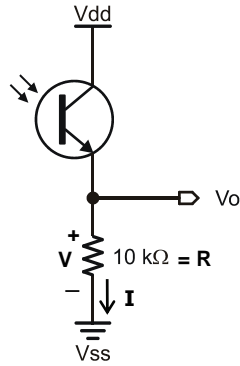

Figure 7-19
As mentioned in Chapter 5, Activity #2, the voltage threshold for a BASIC Stamp I/O pin is 1.4 V. When an I/O pin is set to input, voltages above 1.4 V applied to the I/O pin result in a binary 1 and voltages below 1.4 V result in a binary 0. The V_o node in the circuit shown in Figure 7-19 varies in voltage with light. This circuit can be connected to a BASIC Stamp I/O pin, and with low light, the voltage will pass below the BASIC Stamp's 1.4 V threshold, and the I/O pin's input register will store a 0. In bright light conditions, V_o rises above 1.4 V, and the I/O pin's input register will store a 1.
The reason the voltage at V_o changes with light levels is because of Ohm's Law, which states that the voltage across a resistor (V in Figure 7-19) is equal to the current passing through that resistor (I), multiplied by the resistor's resistance (R).
Remember that a phototransistor lets more current pass through when exposed to more light, and less current when exposed to less light. Let's take a closer look at the example circuit in Figure 7-19 and calculate how much current would have to pass through the resistor to create a 1.4 V drop across the resistor. First, we know the value of the resistor is 10 k Ω , or 10,000 Ω . We also know that we want the voltage to be equal to 1.4 V, so we need to modify Ohm's Law to solve for I . To do this, divide both sides of the $V = I \times R$ equation by R , which results in $I = V \div R$. Then, substitute the values you know ($V = 1.4$ V and $R = 10$ k Ω), and solve for I .